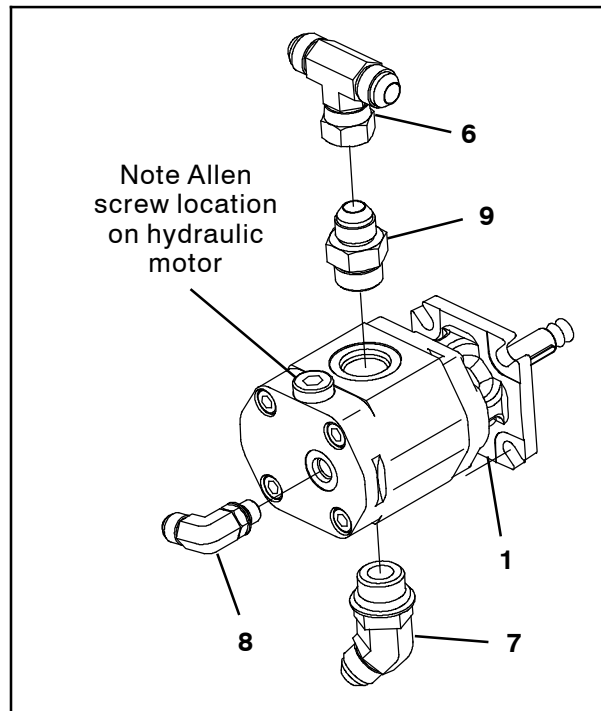

FIG. 12
- Remove the plugs from the new hydraulic motor (1).
- Install the straight fitting (9) into the hydraulic motor (1). (Fig. 12)
- Install the t-fitting (6) into the straight fitting (9) installed into hydraulic motor (1) in the previous step. Do not completely tighten t-fitting. The t-fitting is tightened during later adjustment. Note location of Allen screw on the scrubbing fan hydraulic motor. (Fig. 12)
- Install the 90° fitting (8) onto the scrubbing fan hydraulic motor (1). (Fig. 12)
- Install the 45° fitting (7) onto the scrubbing fan hydraulic motor (1). (Fig. 12)